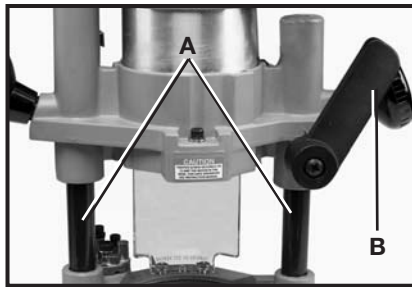

Fig. 9
Do not allow the wrenches to contact the columns (A) Fig. 9. Columns could be damaged, restricting the plunge action.
2. Release plunge mechanism by pulling the locking lever (B) Fig. 9 to the left. Lower the plunge mechanism until the router bit touches the work surface. Release the lever and push it to the right to lock the mechanism in this position.